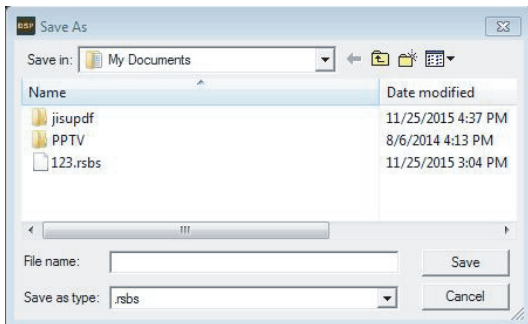

Figure 3.4.6
Step 2: Click "Save as PC Presets File " will bring up the file after item Save As dialog window (Figure 3.4.6).